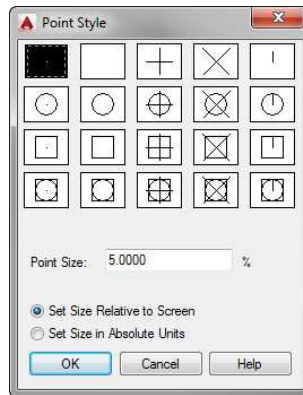

FIGURE 9.14: The Point Style dialog box
3. With layer 0 current, from the menu bar, expand the Utilities panel on the Home tab and choose Point Style, or enter **DDPTYPE**.↵ to open the Point Style dialog box (see Figure 9.14).